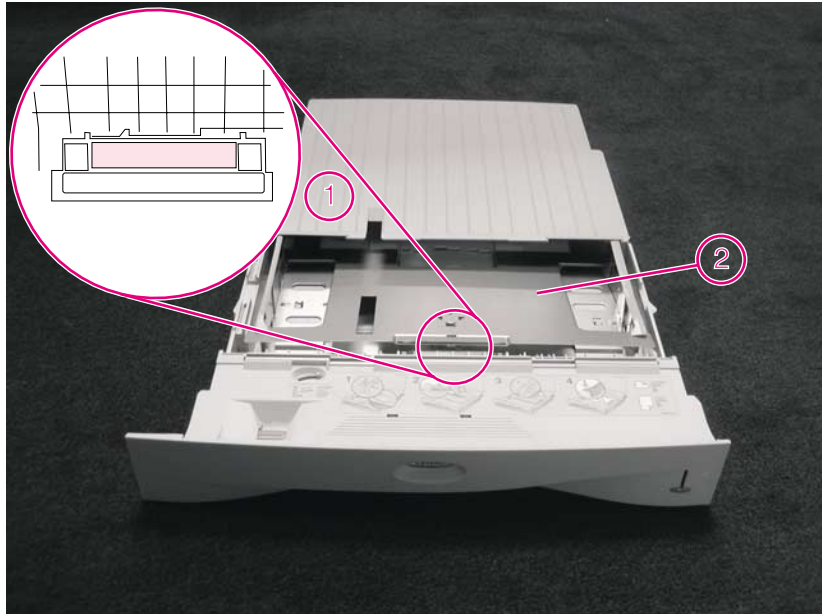
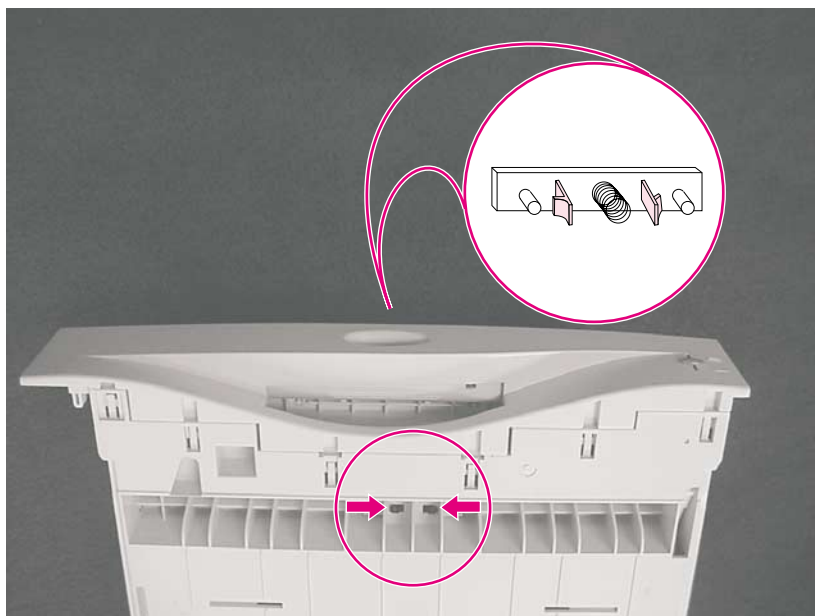

Figure 10 Removing the Tray 2 separation pad and spring (top view)
Figure 11 Removing the Tray 2 separation pad and spring (bottom view)
- 2 While pressing down on the paper lift plate (Figure 10, item 2), reach under the front of the tray and squeeze the black tabs to release the separation pad from the tray. (See Figure 10, item 1, and Figure 11.)